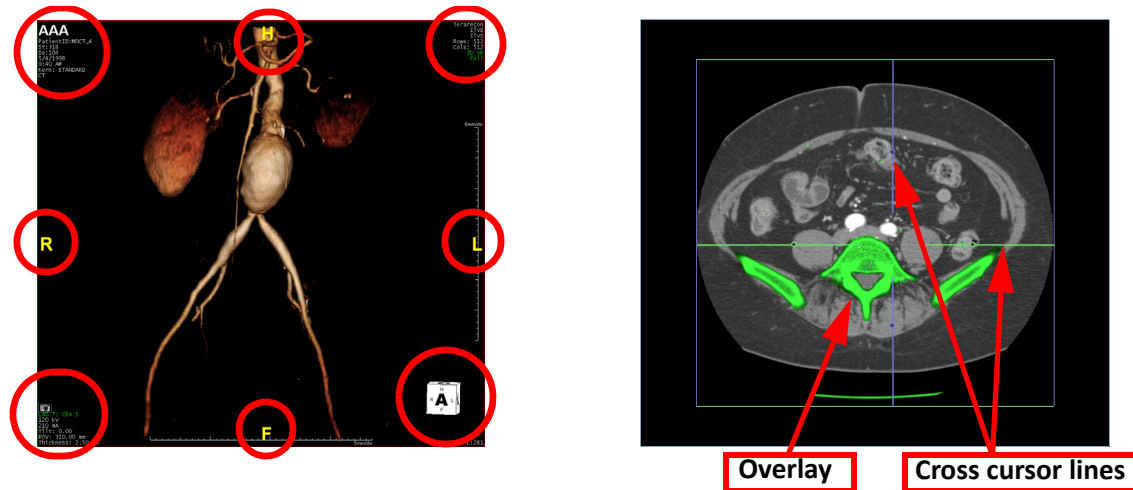

Figure 3-108: Annotations
- **Scale Bar** - Calibrated lines at the bottom and right sides of each image, showing the proportions of the image (labeled in Figure 3-108).
- **Orientation** - The white cube in the bottom right corner, showing the orientation of the image. Also, the letters on the sides and top, indication orientation (A, P, L, R, H, F) (circled in light blue in Figure 3-108).
- **Show/Hide Annotations** - If you want annotations displayed on images, select **Show All Annotations** from this menu. To hide annotations, select **Hide All Annotations**. The image is displayed as shown in the right-hand image in Figure 3-108.